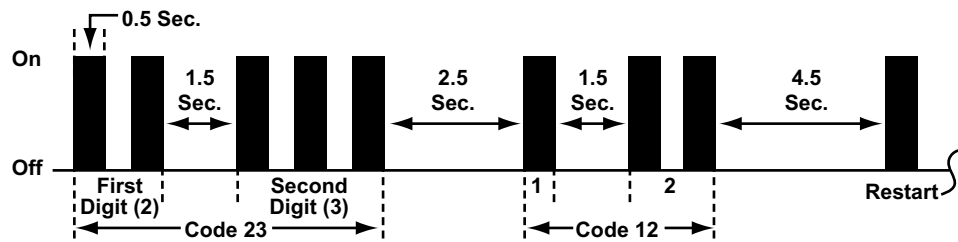

Figure 7-15 Engine Code Type 09
- Type 09 engine codes, see Figure 7-15 and Table 7-2